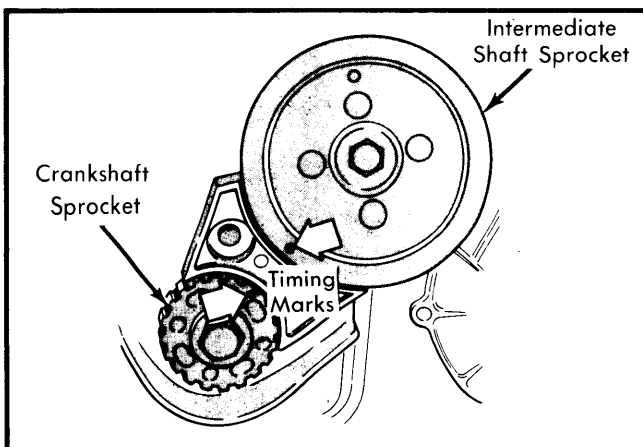
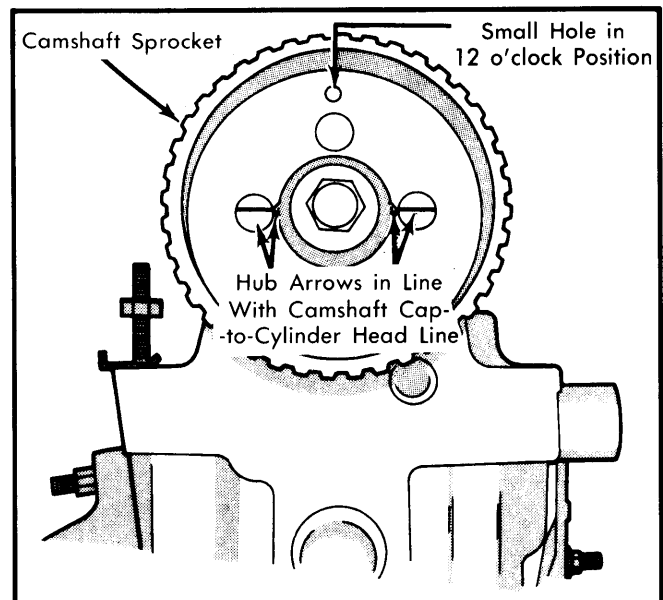

Fig. 9 Crankshaft and Intermediate Sprocket Timing Marks
Fig. 10 Camshaft Timing Marks
Installation – 1) Align timing marks on crankshaft and intermediate sprockets. See Fig. 9. Turn camshaft sprocket until arrows on hub are in line with No. 1 camshaft cap-to-cylinder head line. Small hole must be at 12 o'clock position. See Fig. 10.
3) Install intermediate sprocket and sprocket holding tool (C-4687 or equivalent). Install sprocket bolt and tighten. Align intermediate shaft, crankshaft and camshaft sprocket timing marks. See Figs. 9 and 10. Align slot in oil pump shaft parallel to centerline of crankshaft.